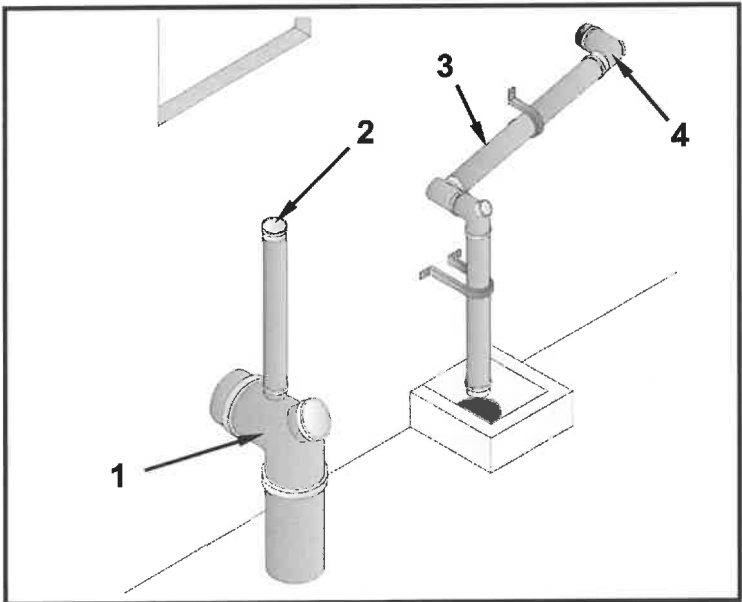

FIGURE 3.5
3.5 Use the information in FIGURE 3.5 below and take off the details of materials needed, as indicated in the table below. Write only the answer next to the question numbers (3.5.1 to 3.5.7) in the ANSWER BOOK, e.g. 3.5.8 Shower.